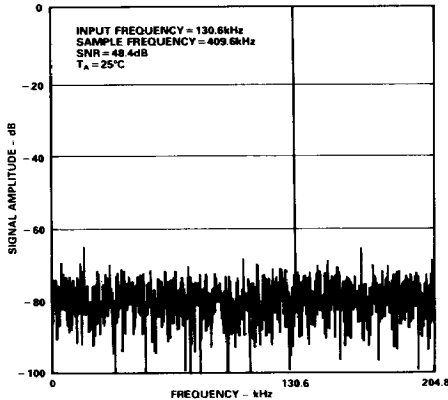

Figure 13. ADC FFT Plot
Figure 13 shows a 2048 point FFT plot of the ADC with an input signal of 130kHz. The SNR is 48.4dB. It can be seen that most of the harmonics are buried in the noise floor. It should be noted that the harmonics are taken into account when calculating the SNR. The relationship between SNR and resolution(N) is expressed by the following equation: